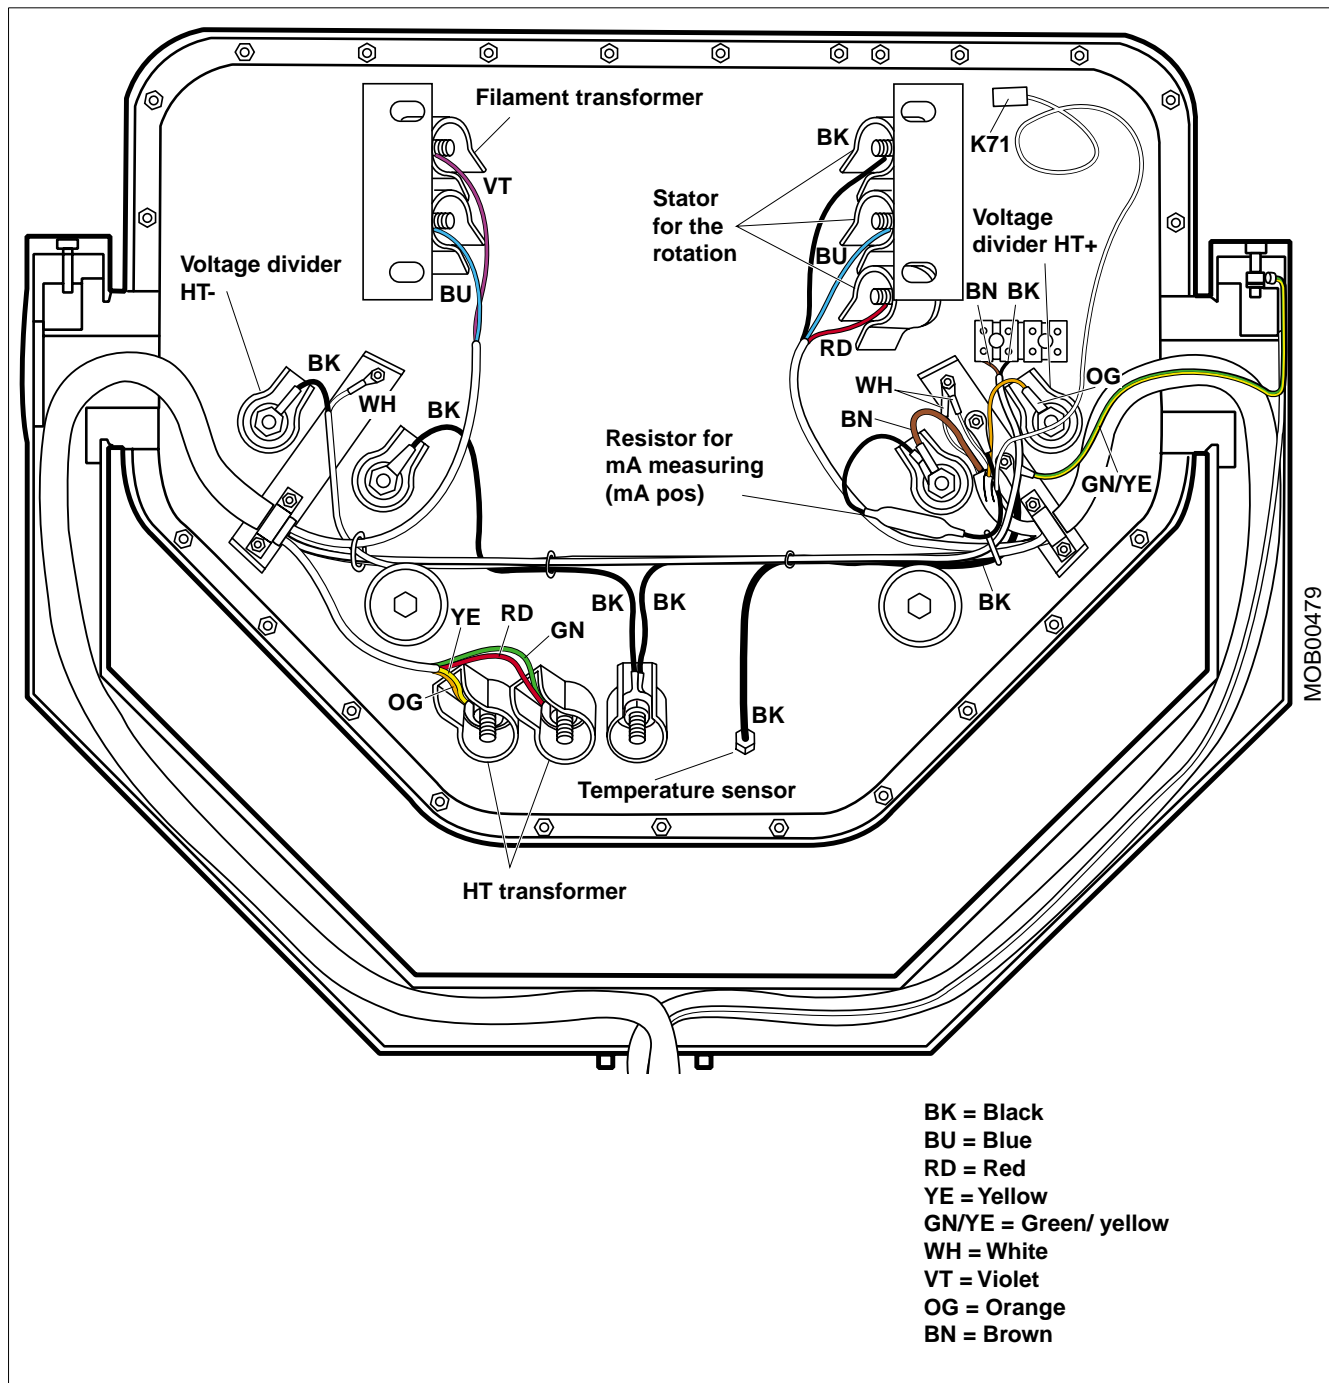

Fig. 21
- Connect all wires on the single tank according to (Fig. 21).